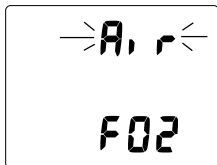

Fig. 20A - SET FO2 = AIR
- Depressing and holding the S (Side) button while the Set Point is flashing will scroll the Set Points from AIR (Fig. 20A) to 21 through 50% in 1% increments, at a rate of 8 Set Points per second.